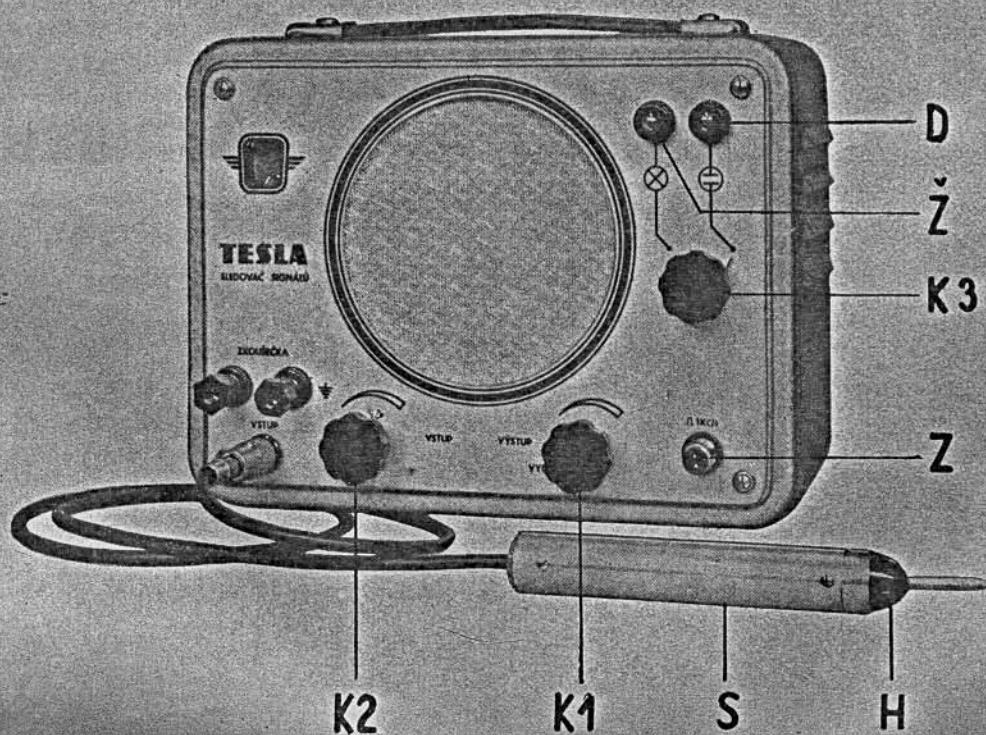

Fig. 1
a) A three-stage A. F. amplifier equipped with an input probe, a visual indicator and a loudspeaker. The amplifier is fitted with the electronic tubes 6CC41, 6L31 and a visual indicator EM81. The sensitivity is continuously controllable with the input divider K2 (R6). The input probe of the signal tracer can be switched to A. F. or R. F. by rotating its head H (Fig. 1). When it is switched to A. F. (this position is marked with a dot), an RC network is connected to the input of the tracer; when it is switched to R. F. (two dots), a diode detector fitted with a germanium diode is connected to the input. In the R. F. position, the probe operates within the range 100 kc/s to 200 Mc/s. The input capacitance of the probe is 21 pF. The maximum input voltage may be 250 V D. C. or 100 V R. M. S. The peak voltage of an A. C. superimposed on a D. C. component may reach maximum 400 V.